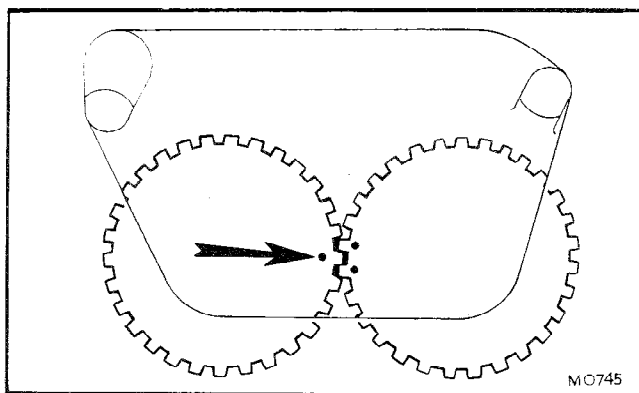

Fig. 4
- f. Refit the balancer gears with the thrust washers on both sides of the gears, and with the timing marks aligned as shown in Fig. 4. Apply Loctite to the gear securing screw threads.